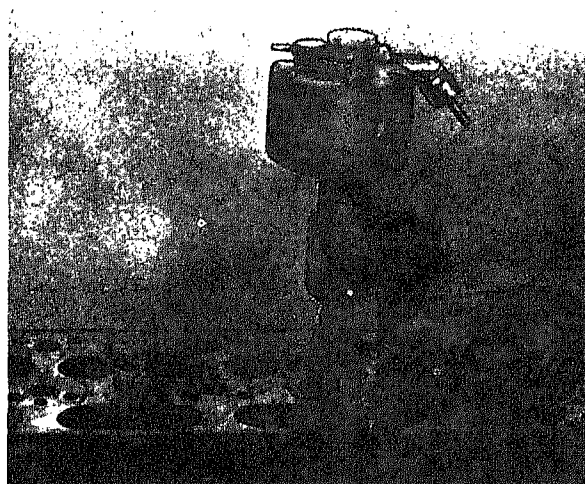

Fig. 2-3-2. Counterbore for valve seat insert
3. Valve Seat Insert Tool must be used to hold and drive cutters and must be driven by an electric motor. Fig. 2-3-2.